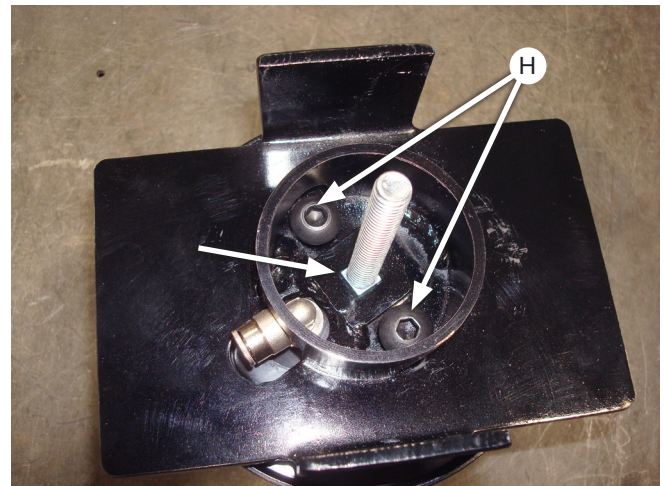

Fig. 10
3. Align the fitting in the air spring assemblies with the slot in the upper brackets (Fig. 10) and install the upper brackets onto the air spring assemblies using the button-head cap screws (H).